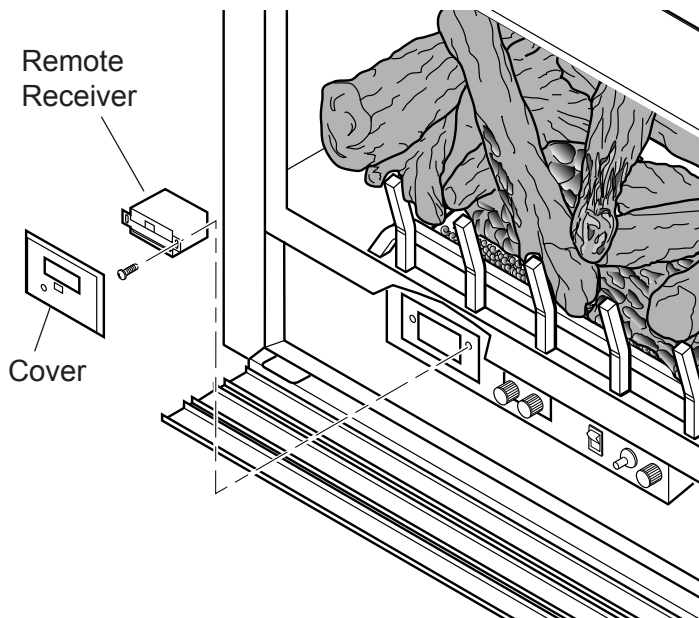

Figure 19 - Installing Remote Receiver
1. Remove cover on control panel to show opening for remote receiver. *See Figure 19.*
6. Connect the connectors to the two .25" male connectors located on the left side when facing the unit (*Figure 19*). Do not let the wire touch the grate or burners.
7. Slide remote receiver in the opening of control panel. Use two screws provided to attach remote receiver to the control panel. *See Figure 19.*
8. Replace Cover. *See Figure 19.*